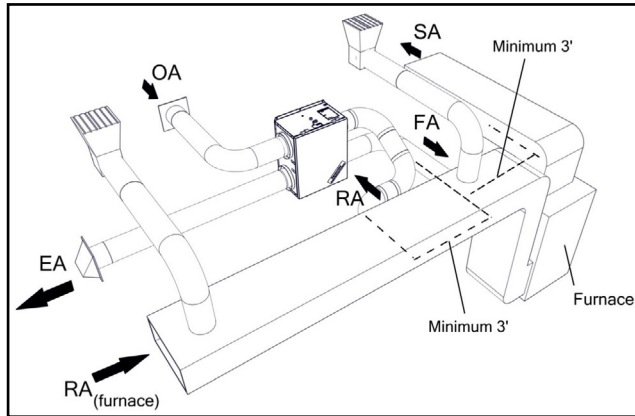

FIGURE 2.4.3 FURNACE RETURN AIR BACK INTO RETURN AIR
**NOTE:** For the setup in Figure 2.4.3, the furnace blower must be operated any time the ERV is operated. Use furnace fan "on" continuous low speed or optional SFM control to cycle furnace fan on ERV.